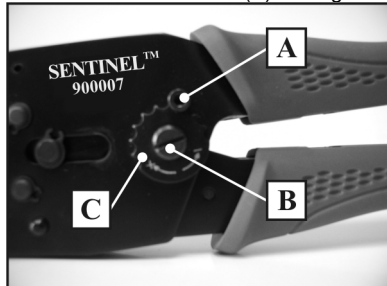

Fig.8.
1. Loosen and remove allen head screw (A) using a 2.5 mm allen wrench. (Fig.8.)
2. Using a screw driver turn eccentric axle (B) and toothed adjustment wheel (C) into new position.